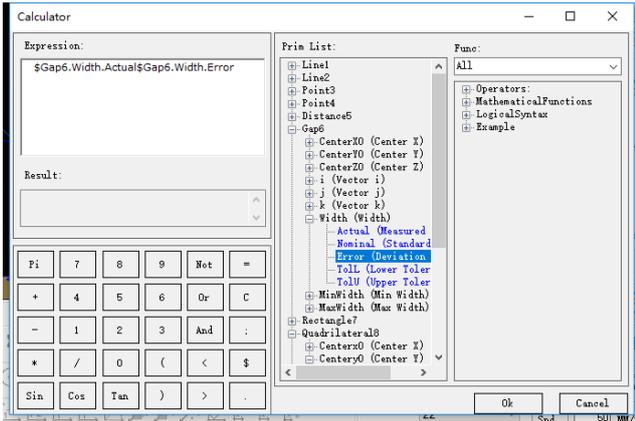

Figure 3
- C. Select the operator in the operation area of the lower left corner, etc., and it will be displayed in the expression box (Figure 3).